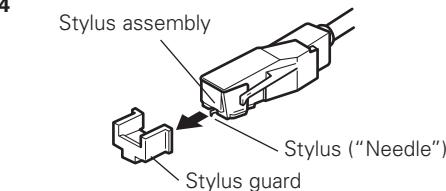

Figure 4
1. Remove the stylus guard from the stylus assembly (Fig. 4).